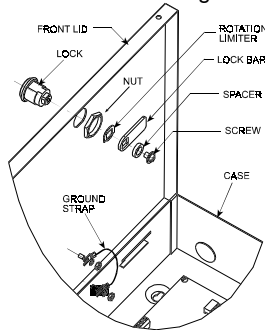

Figure 3.4 LK-1 Assembly
The LK-1 lock kit includes the lock itself and mounting hardware as shown in Fig. 3.4. To assemble the lock, proceed as follows:
- D. A ground strap is supplied with your system (Fig. 3.4). Mount it in place and tighten it well. The required lock washers and nuts are packed together with the ground strap.